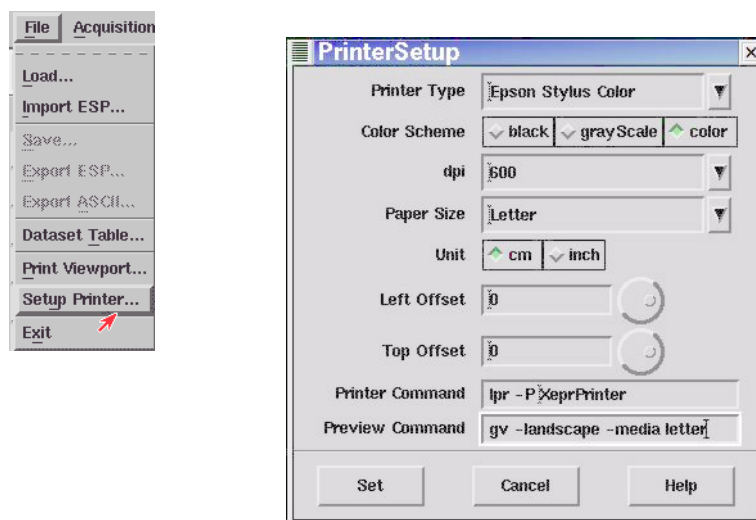

Figure 16-7 Setting up the printer.
4. **Set up the printer.** Click File in the menu bar and then Setup Printer. A dialog box appears. Click the arrow button next to the Printer Type. A drop-down list of printers will appear. Select the correct Printer Type for your printer. The Printer Command should be set as `lpr -P <printername>`, where <printername> should be replaced by the name of the printer. You can also enter `lpr` which will print to the default printer. The Preview Command should be set to `gv -landscape -media letter` (or A4). Now that the critical settings are selected, you can choose the other options which are available in the dialog box. Click Set to exit this dialog box. (See Figure 16-7.)